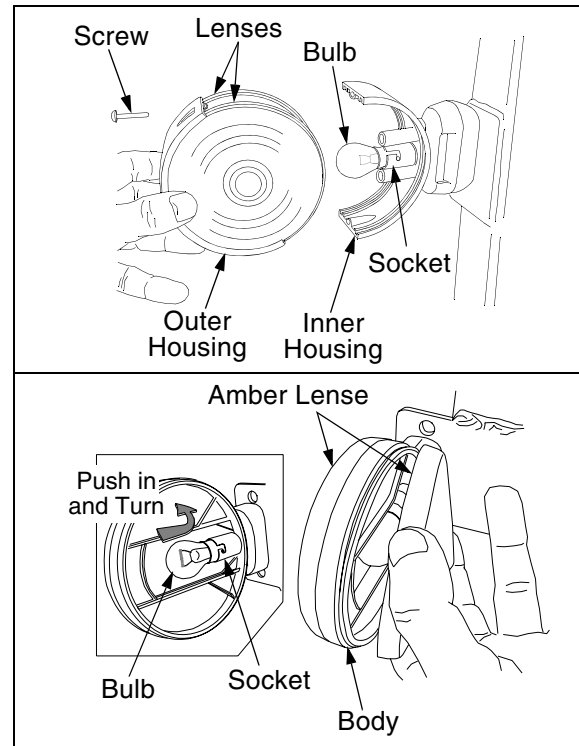

Figure 36
- **Screw fastened hazard light assembly:** Grasp the outer half of the light housing and both the front and rear lenses. Accessing the screws from the notches at the top and bottom of the outer housing, remove the two screws and remove the outer housing and lenses. See Figure 36.
- **Snap together hazard light assembly:** Insert a **thin** bladed screwdriver, or similar tool, between an amber lense and the hazard light body, then twist to separate the lense from the body. See Figure 36.
- Push the bulb inward and turn counterclockwise, then pull the bulb outward to remove from the light socket. See Figure 36.